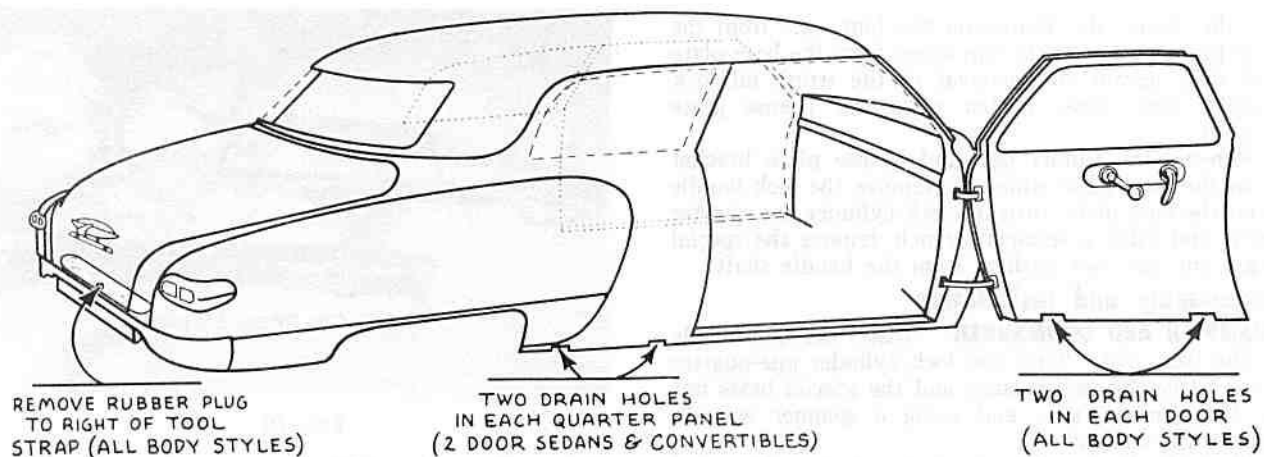

FIG. 25
**CHAMPION AND COMMANDER** Two drain holes in the bottom of each door provide proper drainage of the door panels. Another drain hole is located in the tool compartment to the right of the tool strap. The two-door sedans and the convertibles have in addition two drain holes in each rear quarter panel which provide drainage for the rear quarter window (see Fig. 25).